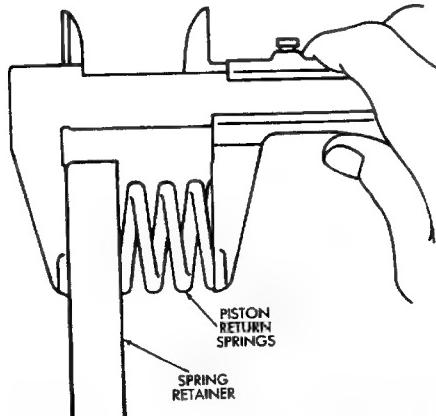

Fig. 7 Checking Piston Return Spring Length
(9) Measure free length of piston return springs with springs mounted in retainer (Fig. 7). Length should be 18.61 mm (.733 in).
(10) Clean support components and dry them with compressed air.
(11) Inspect overdrive support and brake piston. Replace support and piston if either part is worn or damaged.
(9) Compress clutch piston return springs with tool B.Vi. FM. 27 and remove clutch piston snap ring (Fig. 7).
(10) Remove compressor tool and return spring.